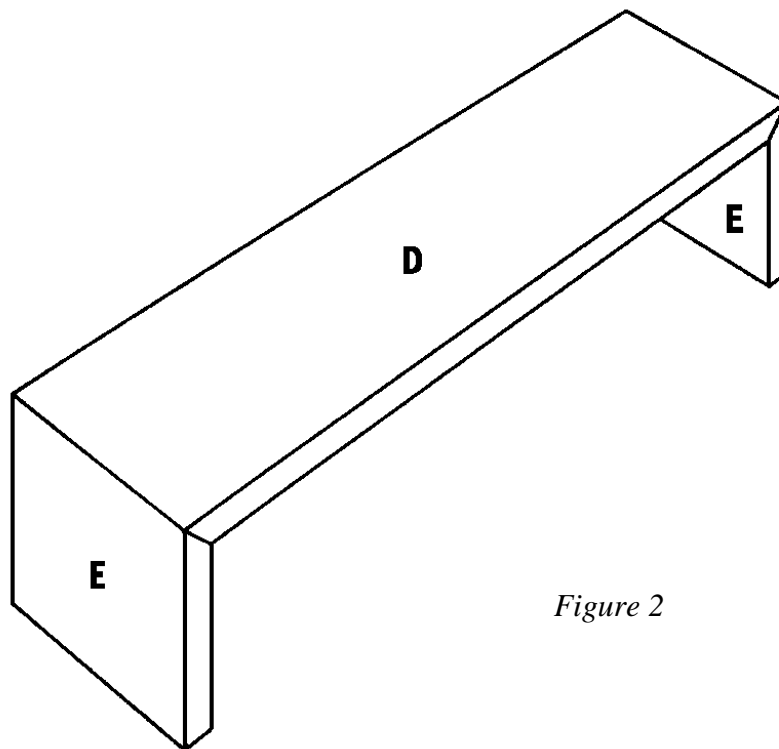

Figure 2
1. Cut one Base Front (D) from 3"-wide beaded molding, measuring 26-5/8 inches. Using *Figure 2* as a guide, miter both ends of the molding at opposing 45-degree angles.
2. Cut two Base Sides (E) from 3"-wide beaded molding, each measuring 6 inches. Refer to *Figure 2* to miter one end of both Base Sides (E).